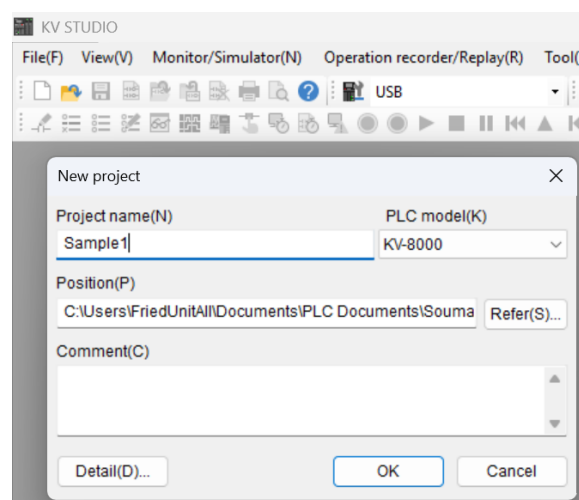

Fig 5 Create New Project window
- ① Launch KV-studio.
- ② Click on [File] -> [New project].
- ③ Enter Project name, PLC model, Project location. (Fig 5)
- ④ Click OK to create the project.
- ⑤ When the “Automatically set the operation recorder setting?” dialog box appears, select Yes. (*This setting is optional.)
- ⑥ When the “Setup unit setting info now?” dialog box appears, select No.